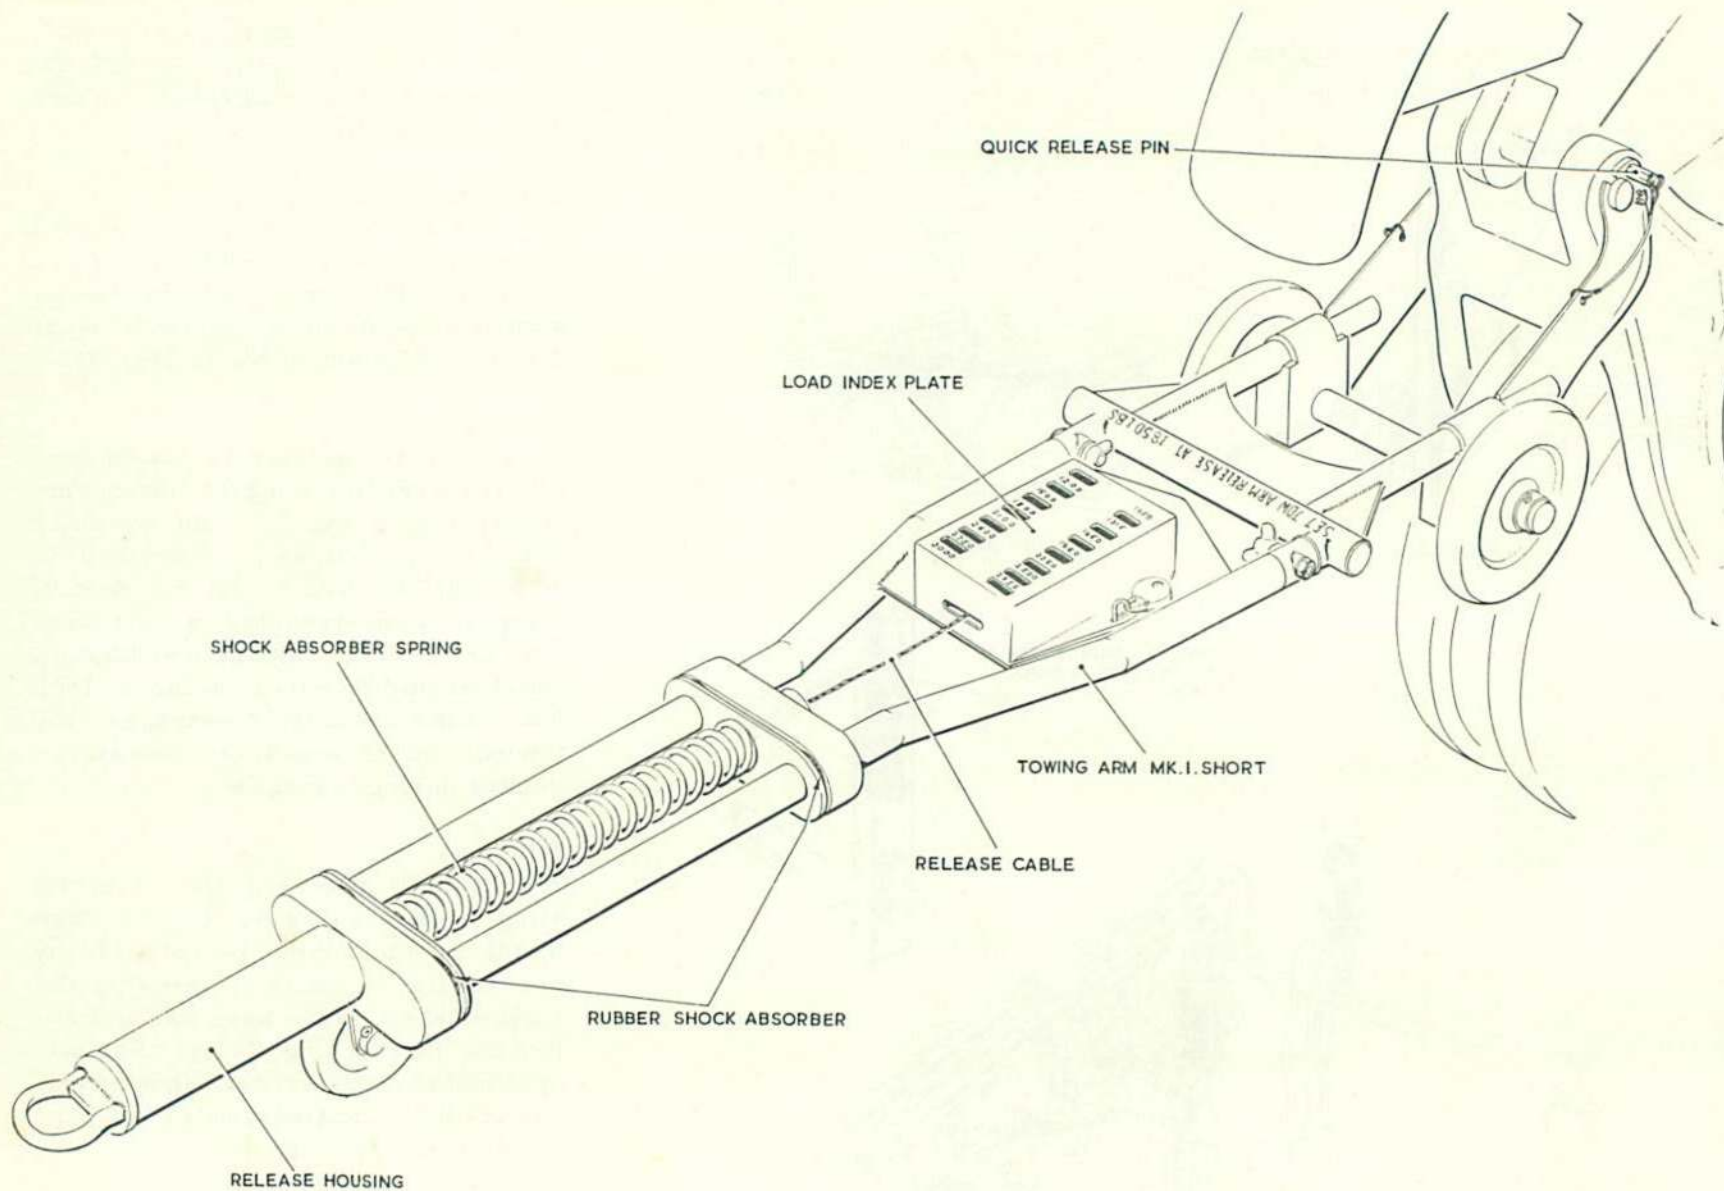

Fig. 3. Towing
6. The aircraft may be towed forward by a tractor using the towing arm illustrated in Fig. 3. An overload release mechanism, described in A.P. 2817A, Vol. 1 and 6, Sect. 9, Chap. 4, is incorporated in the towing arm unit. This release mechanism, which should be set to operate at 1850 lbs, automatically disengages the towing eye if excessive resistance occurs during towing. ▶